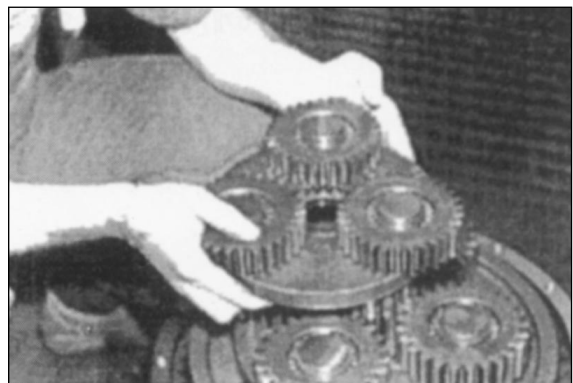

Figure 81
19. Remove first planetary gear assembly. Figure 81.